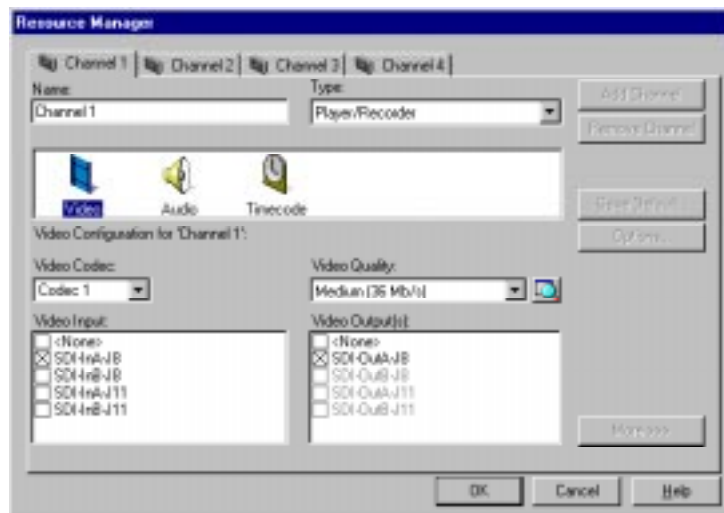

Figure 143. Resource Manager for PRC100 Configuration Tool
1. Double-click the PRC100 Configuration Tool icon on the Windows NT desktop. The Resource Manager dialog box appears (see Figure 143).